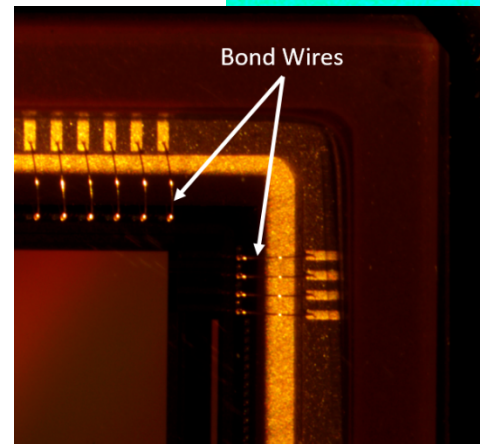

Figure 3
**Bond Wires** connect the sensor to the rest of the electronics; they are extremely small and delicate (see Figure 3). Should they be damaged, the sensor cannot be repaired. Avoid blowing directly on the fragile bond wires by instead blowing off the chip at an angle (air-dusters addressed below). The ambient light on the sensor should show when the dust spots have been removed.